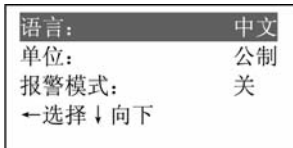
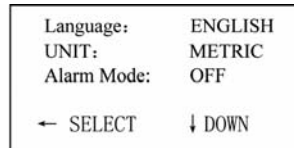

Figure 25
Figure 26
- d. Use the  $\uparrow$  or  $\downarrow$  key to move to "Language". Press  $\leftarrow$  to change between Chinese or English (as figure 25 and figure 26).